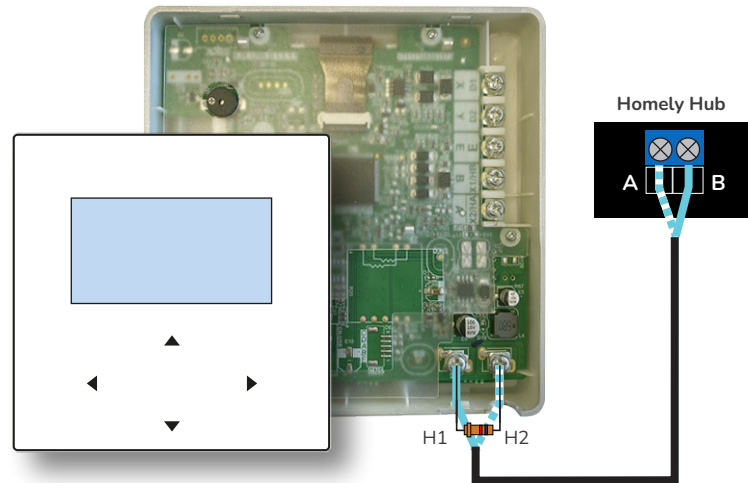

figure 2
3. Connect the supplied 120-ohm resistor between the controller terminals as shown (figure 2).